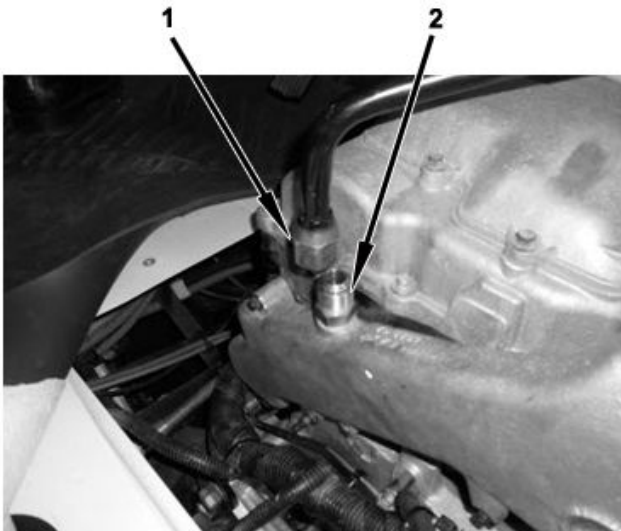

Figure 38. Cab Heat Tube.
19. Connect cab heat tube (Figure 38, Item 1) to coolant manifold (Figure 38, Item 2).